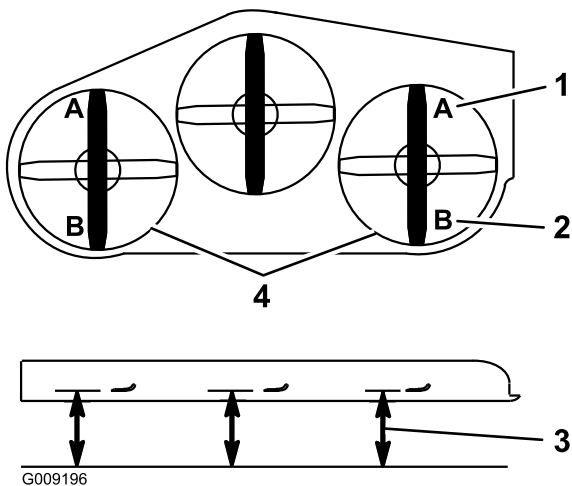

Figure 93
Note: The measurement should read 7.6 mm (3 inches) as shown in Figure 93.
15. On both sides of the deck, measure from the level surface to the back tip of the blade (position B) as shown in Figure 93.